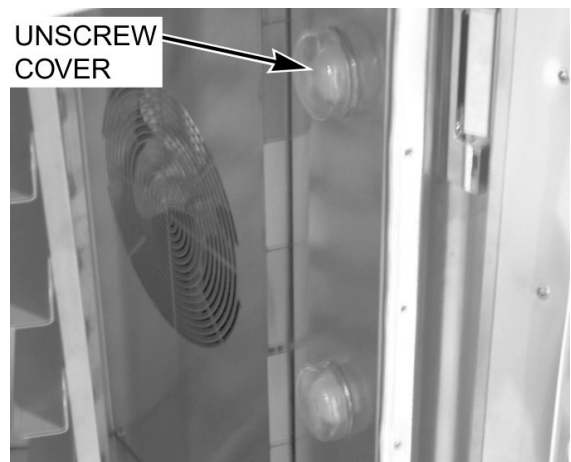

Fig. 50
- A. Twist lamp cover (Fig. 50) to disengage from lamp sockets and remove from socket.